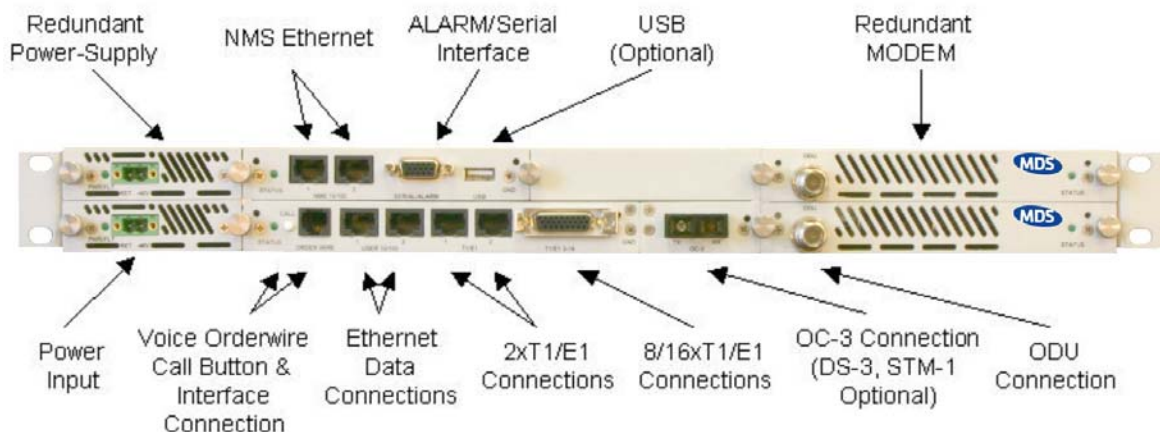

Figure 3-13. MDS 5800 II-SB, 1+1 Protection: SDIDU™ Front Panel Connections
9. Connect the SDIDU™ to the laptop computer, using a Cat-5 Ethernet cable or connect the SDIDU™ to a computer network, using a Cat-5 Ethernet cable. Connect the Ethernet cable to **NMS 1 or 2** connector on the SDIDU™ front panel. Refer to Figure 3-13 for the SDIDU™ front panel connections.